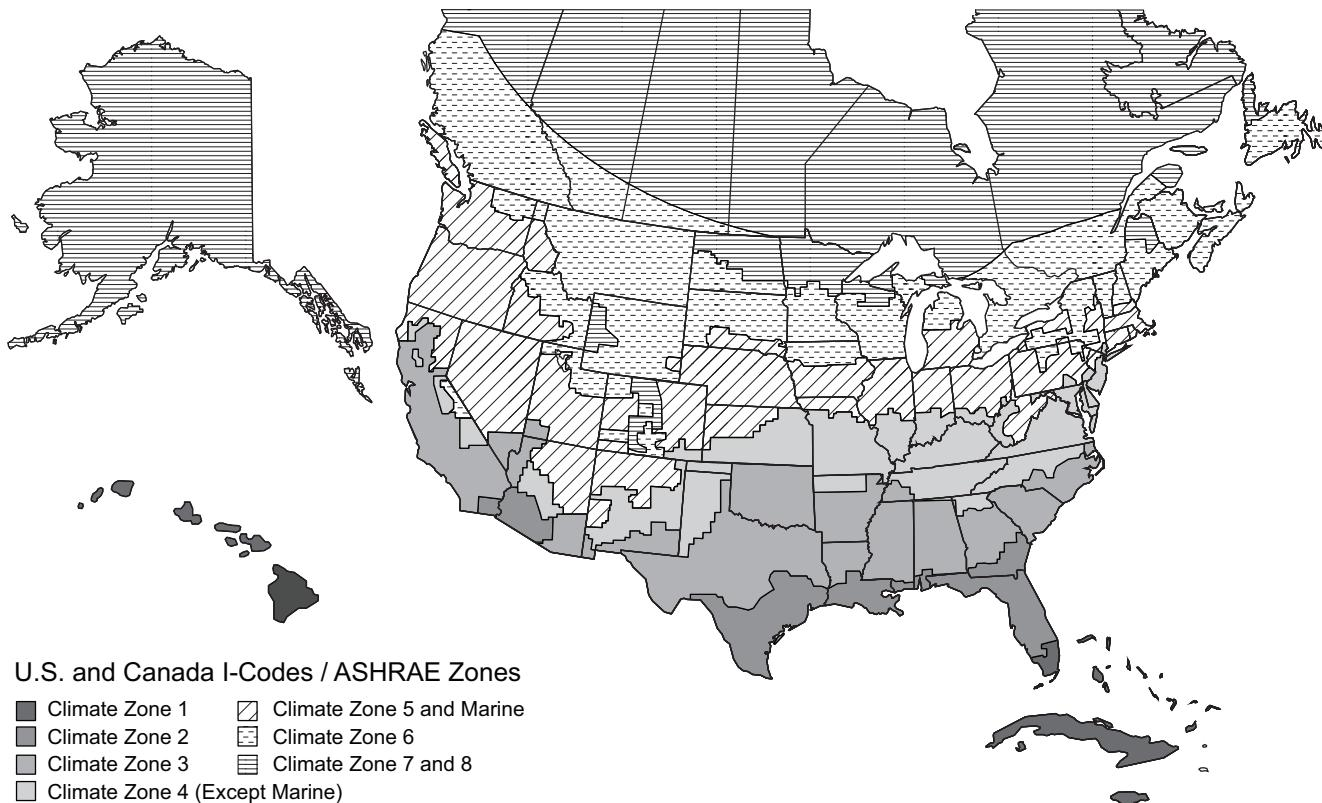

Fig. 92 — U.S. and Canada Climate Zones
- a. See Fig. 92 for map of U.S. and Canada climate zones.